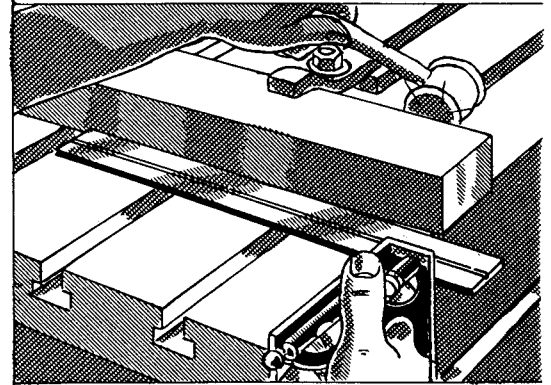

FIG. 305
4. Place a single thickness of paper on the shaper table for the purpose of increasing the amount of friction between the work and the table and reducing the likelihood of the job shifting during the cut (Fig. 305).
8. Place the head of a combination square against the side of the table just cleaned, and extend its blade so that it comes alongside of the work (Figs. 305 and 306).